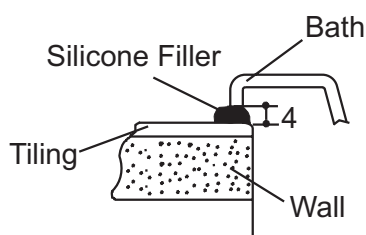

Fig. 1
- ❑ The necessary gap between bath rim and the wall is 2 mm horizontally and 4 mm vertically. Refer to figures 1, 2, and 3 above.